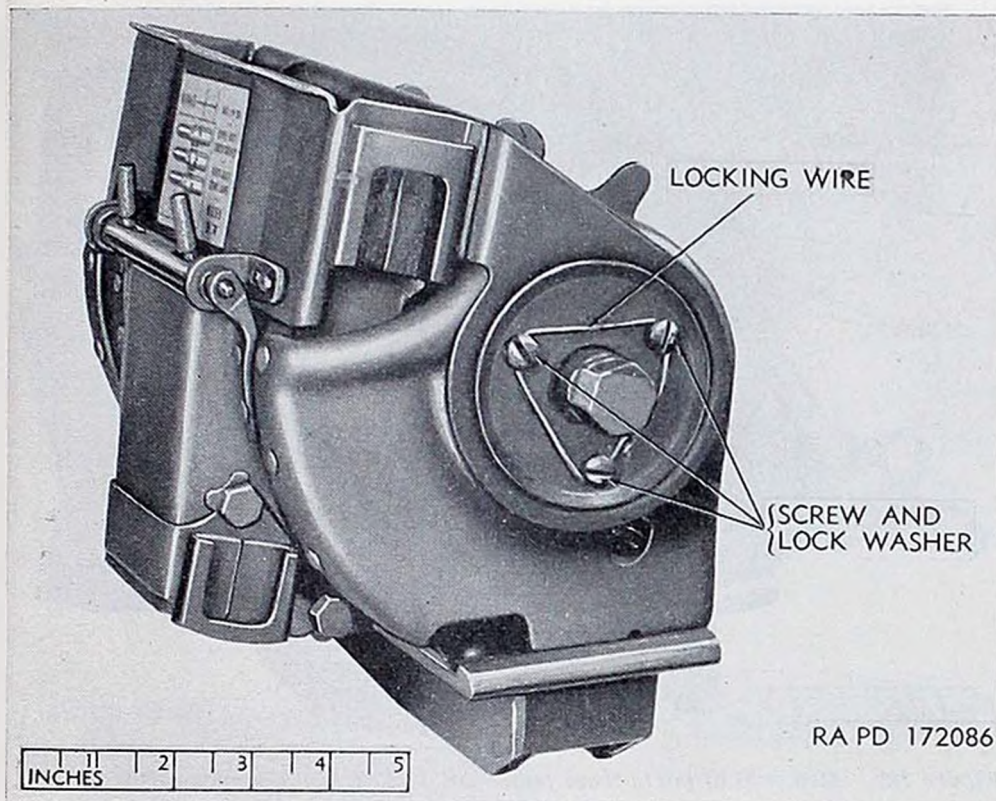
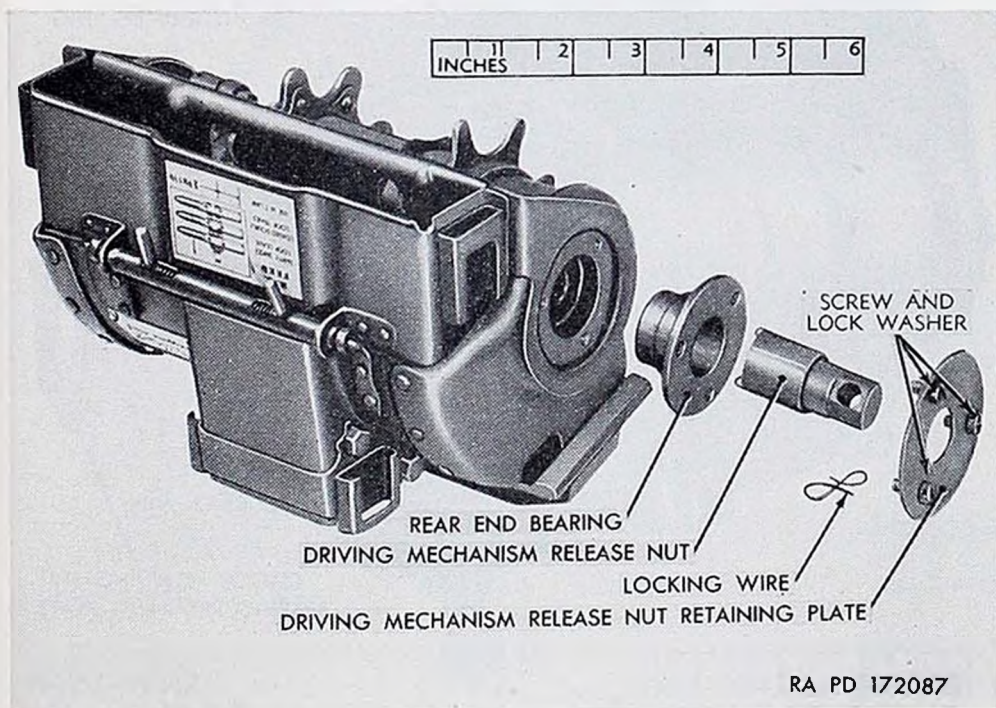

Figure 135. Removal of parts from rear end of 20-mm feed mechanism AN-M2.
Figure 136. Parts removed from rear end of mechanism AN-M2.
a. Remove locking wire and the three screws and lock washers on rear side of feed mechanism, as shown in figure 135. Remove driving mechanism release nut retaining plate, driving mechanism release nut, and rear end bearing (fig. 136).